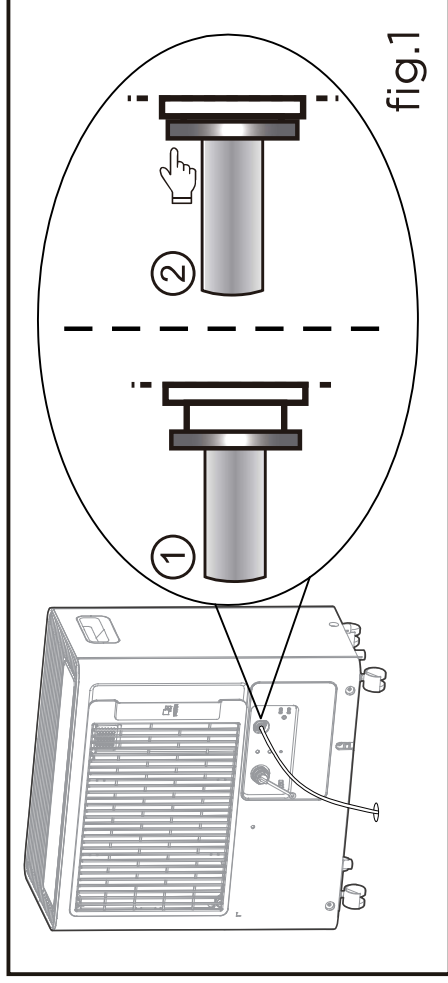

fig.1
- Press the tightening ring of the drainage joint (as shown in fig.1);